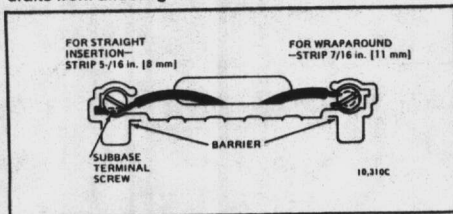
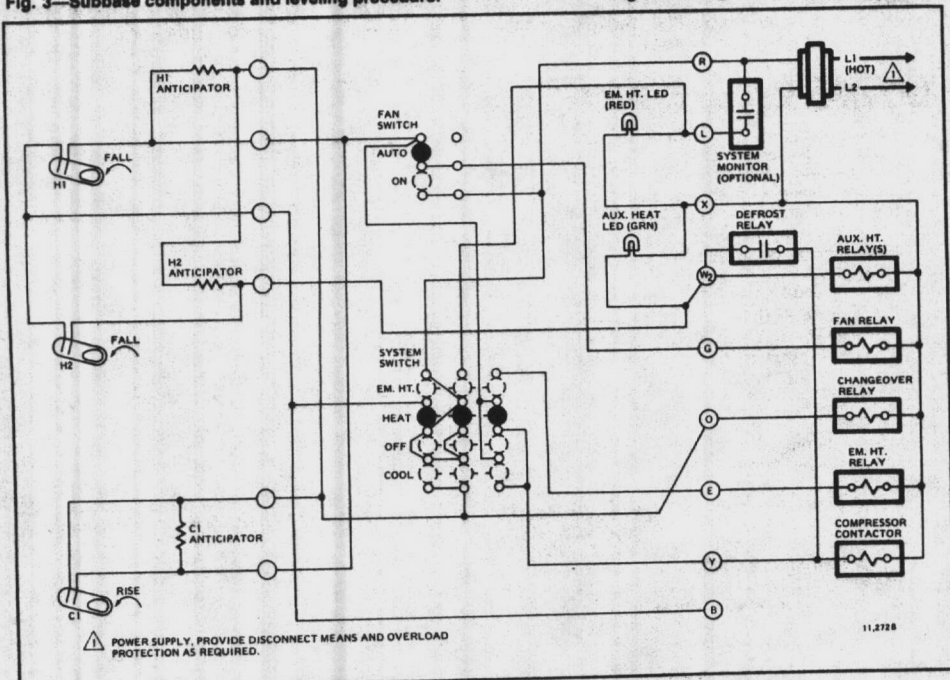

Fig. 4—Wiring connections.
Fig. 5—Internal schematic and typical wiring diagram for T874C and Q674L1157.
1. Connect the system wires to the subbase as shown in Fig. 5 through 10. A letter code is near each terminal for identification. The terminal barrier permits straight or conventional wraparound wiring connection (Fig. 4).